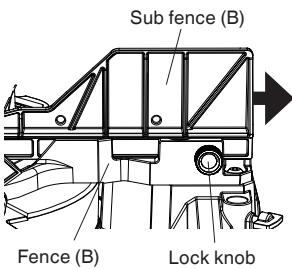

Fig. 12
This power tool is equipped with a sub fence (B). In the case of direct angle cutting and right bevel angle cutting, use the sub fence (B). Then, you can realize stable cutting of the material with a wide back face. When left angle cutting, loosen the lock knob, then slide the sub fence (B) outward, as shown in Fig. 12. When you slide sub fence (B) outward, if enough space cannot be secured or the sub fence (B) comes into contact with other parts of the tool including the lower guard, fully remove sub fence (B) from fence (B).